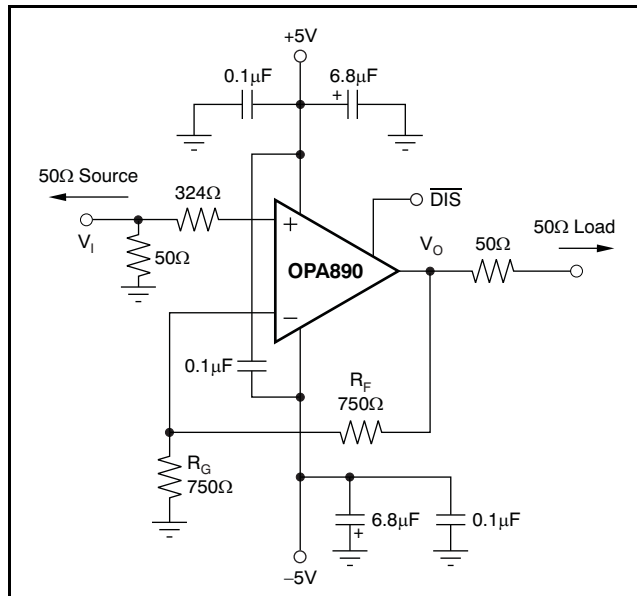
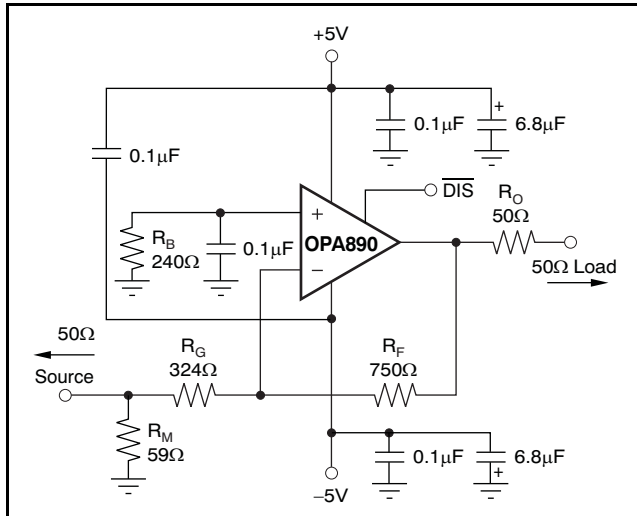

Figure 46. DC-Coupled, G = +2, Bipolar Supply, Specification and Test Circuit
Figure 51. Gain of $-2V/V$ Example Circuit
Figure 46 shows the dc-coupled, gain of +2, dual power-supply circuit configuration used as the basis of the $\pm 5\text{V}$ Electrical Characteristics and Typical Characteristics. For test purposes, the input impedance is set to 50Ω with a resistor to ground and the output impedance is set to 50Ω with a series output resistor. Voltage swings reported in the Typical Characteristics are taken directly at the input and output pins, while output powers (dBm) are at the matched 50Ω load. For the circuit of Figure 46, the total effective load will be $100\Omega \parallel 1.5\text{k}\Omega$. The disable control line is typically left open to ensure normal amplifier operation. Two optional components are included in Figure 46. An additional resistor (324Ω) is included in series with the noninverting input. Combined with the 25Ω dc source resistance looking back towards the signal generator, this configuration gives an input bias current cancelling resistance that matches the 375Ω source resistance seen at the inverting input (see the DC Accuracy and Offset Control section). In addition to the usual power-supply decoupling capacitors to ground, a $0.1\mu\text{F}$ capacitor is included between the two power-supply pins. In practical printed circuit board (PCB) layouts, this optional-added capacitor typically improves the 2nd-harmonic distortion performance by 3dB to 6dB.
Voltage-feedback op amps exhibit decreasing closed-loop bandwidth as the signal gain is increased. In theory, this relationship is described by the gain bandwidth product (GBP) shown in the *Electrical Characteristics*. Ideally, dividing GBP by the noninverting signal gain (also called the noise gain, or NG) predicts the closed-loop bandwidth. In practice, this relationship only holds true when the phase margin approaches 90° , as it does in high-gain configurations. At low gains (increased feedback factors), most amplifiers exhibit a more complex response with lower phase margin. The OPA890 is compensated to give a slightly peaked response in a noninverting gain of $2V/V$ (see Figure 46). This compensation results in a typical gain of $+2V/V$ bandwidth of $115MHz$, far exceeding that predicted by dividing the $130MHz$ GBP by 2. Increasing the gain causes the phase margin to approach 90° and
The OPA890 is a general-purpose, wideband voltage-feedback op amp; therefore, all of the familiar op amp application circuits are available to the designer. Inverting operation is one of the more common requirements and offers several performance benefits. Figure 51 shows a typical inverting configuration where the I/O impedances and signal gain from Figure 46 are retained in an inverting circuit configuration.
In the inverting configuration, three key design considerations must be noted. First, the gain resistor (R_G) becomes part of the signal channel input impedance. If input impedance matching is desired (which is beneficial whenever the signal is coupled through a cable, twisted-pair, long PCB trace, or other transmission line conductor), R_G may be set equal to the required termination value and R_F adjusted to give the desired gain. This approach is the simplest, and results in optimum bandwidth and noise performance. However, at low inverting gains, the resultant feedback resistor value can present a significant load to the amplifier output. For an inverting gain of $-2V/V$, setting R_G to 50Ω for input matching eliminates the need for R_M but requires a 100Ω feedback resistor. This option has the interesting advantage that the noise gain becomes equal to $2V/V$ for a 50Ω source impedance—the same as the noninverting circuits considered in the previous section. The amplifier output, however, now sees the 100Ω feedback resistor in parallel with the external load. In general, the feedback resistor should be limited to a range of 200Ω to $1.5k\Omega$. In this case, it is preferable to increase both the R_F and R_G values, as shown in Figure 51, and then achieve the input matching impedance with a third resistor (R_M) to ground. The total input impedance becomes the parallel combination of R_G and R_M .
The second major consideration, touched on in the previous paragraph, is that the signal source impedance becomes part of the noise gain equation and influences the bandwidth. For the example in Figure 51, the R_M value combines in parallel with the external 50Ω source impedance, yielding an effective driving impedance of $50\Omega \parallel 59\Omega = 27\Omega$. This impedance is added in series with R_G for calculating the noise gain (NG). The resulting NG is $3.14V/V$ for Figure 51, as opposed to only 2 if R_M could be eliminated as discussed previously. The bandwidth is therefore slightly lower for the gain of $-2V/V$ circuit of Figure 51 than for the gain of $+2V/V$ circuit of Figure 46.
The third important consideration in inverting amplifier design is setting the bias current cancellation resistor on the noninverting input (R_B). If this resistor is set equal to the total dc resistance looking out of the inverting node, the output dc error (because of the input bias currents) is reduced to $(\text{Input Offset Current}) \times R_F$. If the 50Ω source impedance is dc-coupled in Figure 51, the total resistance to ground on the inverting input is 351Ω . Combining this resistance in parallel with the feedback resistor gives the value of $R_B = 240\Omega$ used in this example. To reduce the additional high-frequency noise introduced by this resistor, it is sometimes bypassed with a capacitor. As long as $R_B < 350\Omega$, a capacitor is not required because the total noise contribution of all other terms is less than that of the op amp input noise voltage. As a minimum, the OPA890 requires an R_B value of 50Ω to damp out parasitic-induced peaking—a direct short to ground on the noninverting input runs the risk of a very high-frequency instability in the input stage.
Evaluating these two equations for the OPA890 circuit and component values (see Figure 46) gives a total output spot noise voltage of 17.4nV/√Hz and a total equivalent input spot noise voltage of 8.7nV/√Hz. This total includes the noise added by the bias current cancellation resistor (175Ω) on the noninverting input. This total input-referred spot noise voltage is only slightly higher than the 8nV/√Hz specification for the op amp voltage noise alone. This result will be the case, as long as the impedances appearing at each op amp input are limited to the previously recommend maximum value of 350Ω. Keeping both (R_F || R_G) and the noninverting input source impedance less than 350Ω satisfies both noise and frequency response flatness considerations. Because the resistor-induced noise is relatively negligible, additional capacitive decoupling across the bias current cancellation resistor (R_B) for the inverting op amp configuration of Figure 51 is not required.
The balanced input stage of a wideband voltage-feedback op amp allows good output dc accuracy in a wide variety of applications. The power-supply current trim for the OPA890 gives even tighter control than comparable amplifiers. Although the high-speed input stage does require relatively high input bias current (+25°C worst case, 1.6μA at each input terminal), the close matching between them may be used to reduce the output dc error caused by this current. The total output offset voltage may be considerably reduced by matching the dc source resistances appearing at the two inputs. This matching reduces the output dc error resulting from the input bias currents to the offset current times the feedback resistor. Evaluating the configuration of Figure 46, and using worst-case +25°C input offset voltage and current specifications, gives a worst-case output offset voltage equal to: